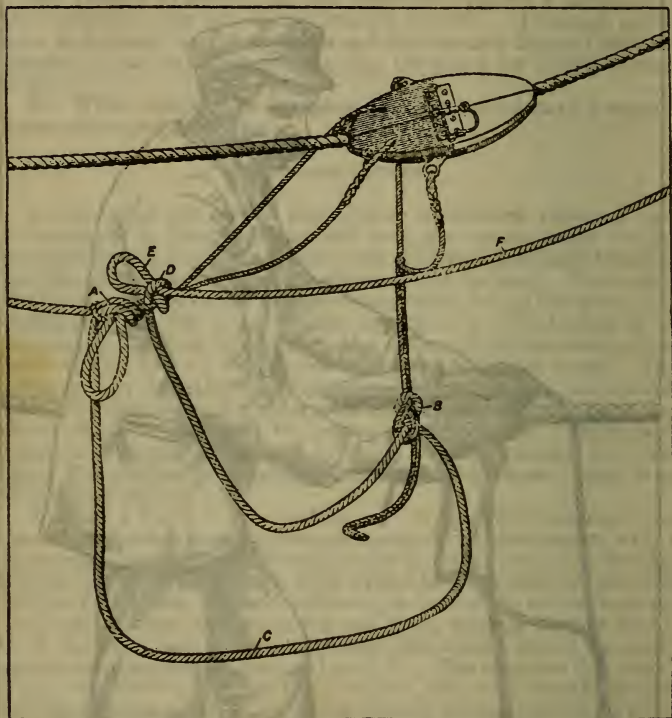

FIG. 17. Hawser cutter arranged for hauling off.
(2) The becket in the outer end of the cutter should have two eyes formed in the bight by passing a seizing around both parts 2 inches from the bight, and a second seizing 2 inches from the first. The method of bending the whip to the hawser cutter is as follows (see fig. 17):
(3) Bend a bight of the weather part of the whip into the outer eye of the becket, leading from the outer end of the cutter, with a sheet bend, as at A, and the tail of the knife lanyards into another bight of the same part of the whip with a bowline knot, B, allowing sufficient slack line, C (say, 2 fathoms), to permit the knives to work.
(4) About 2 feet inshore of the last knot, take up another bight, D, of the whip, and pass it up through the second eye in the outer becket, toggling it with another bight, E. This transfers the weight of the whip from the knives to the becket, thus relieving the hawser from their pressure while the cutter is being hauled off to the wreck.
(5) Haul the cutter out as close as possible to the spar to which the hawser is secured, letting the part of the whip, F, fast to the knives, hang as loosely as possible.
(6) When the cutter reaches the spar hold fast to the hauling-out part, haul on the hauling-in part, F, attached to the knives, which